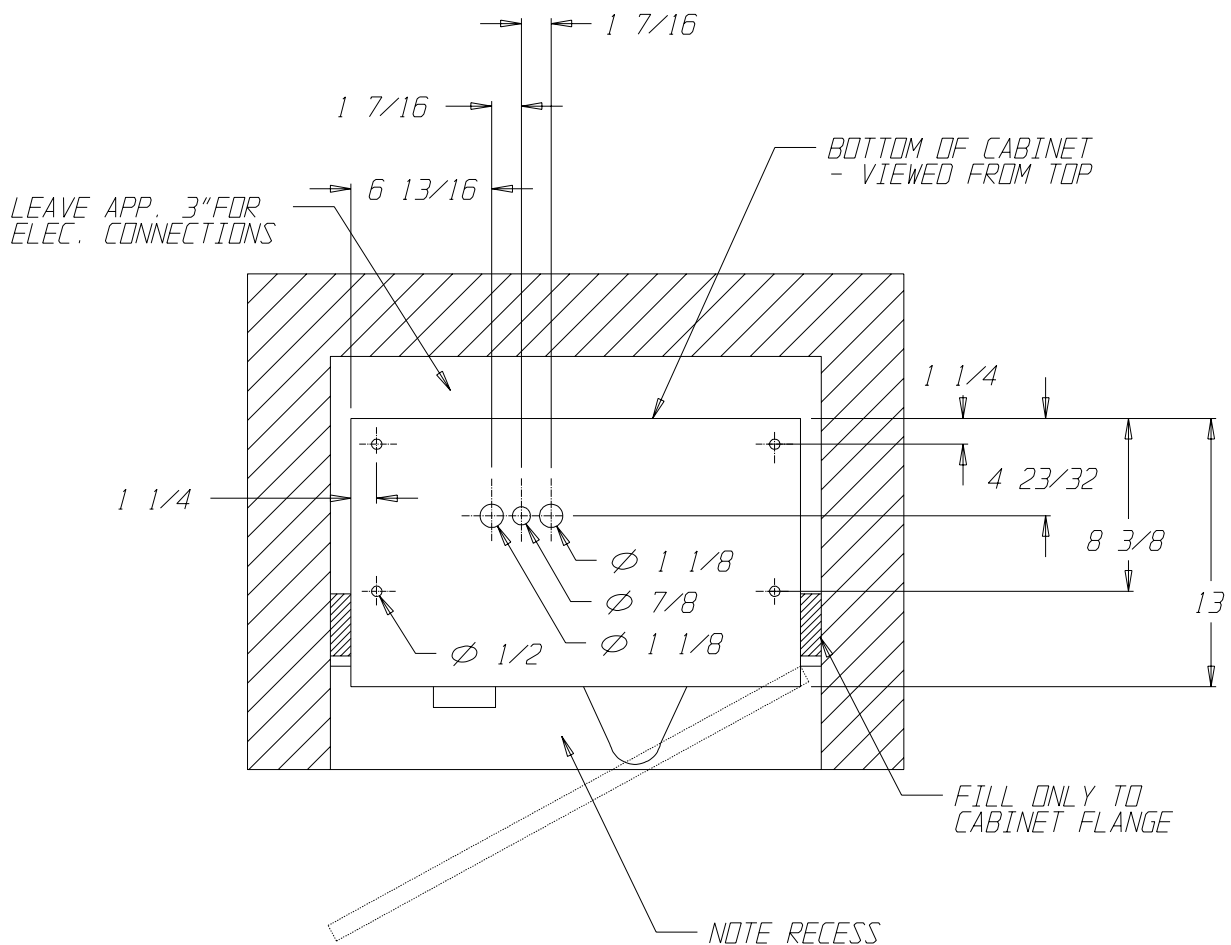
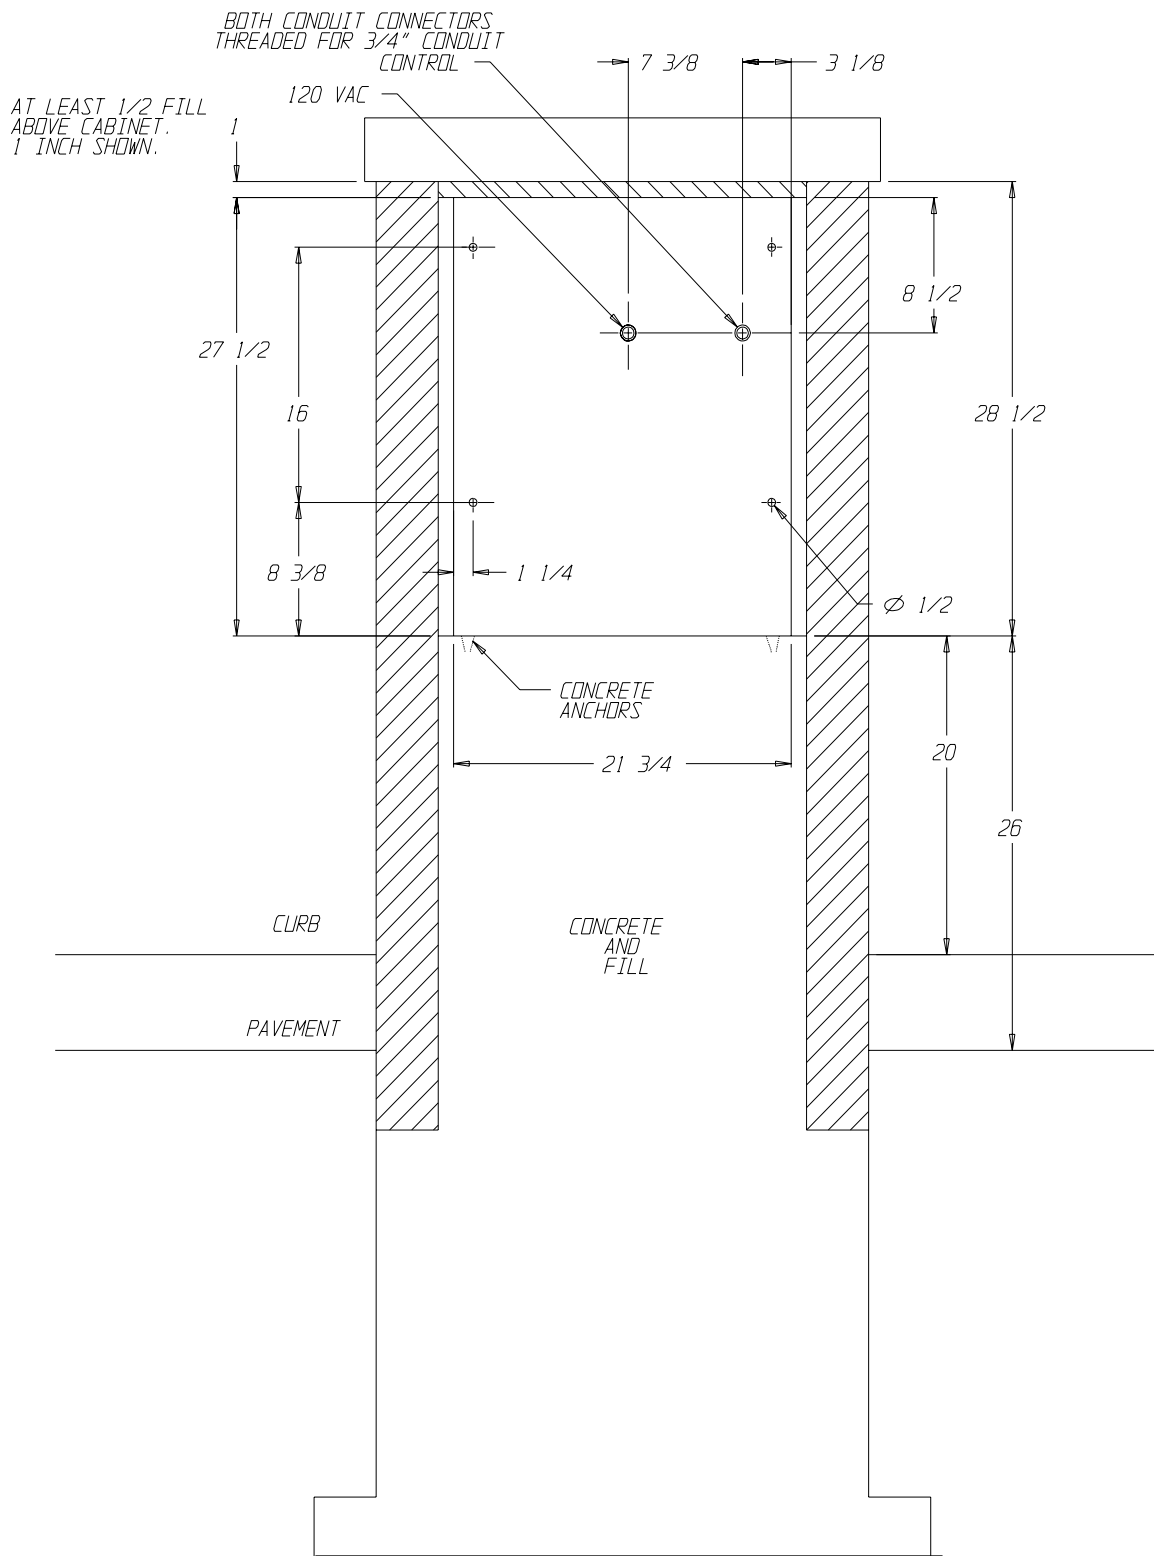

Figure 1
Figure 2
There are no set guidelines for the placement of the Auto Cashier Station. However, it is recommended that the machine is positioned far enough away from the wash entrance to minimize the amount of overspray that may get into the Auto Cashier Station. Also, there is a typical height, from the pavement to the bottom of the cabinet, of approximately 26" (see Figure 2).
- The first method is to construct a small brick or concrete kiosk that will house the Auto Cashier. Fig. 1 and Fig. 2 give the Auto Cashier Station mounting hole locations as well as suggested kiosk dimensions. **Have your engineer or contractor recommend construction suitable for strength and stability.** For an illustration of this mounting procedure, refer to APPENDIX H.